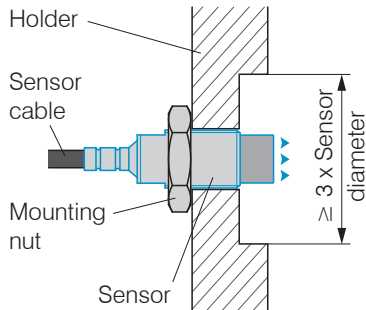

Fig. 10 Flush mounting of an unshielded sensor in a metal holder
- ▶ Mount unshielded sensors flush in a metal sensor holder, see Fig. 10. Make sure that a recess of a size three times the sensor diameter is used.